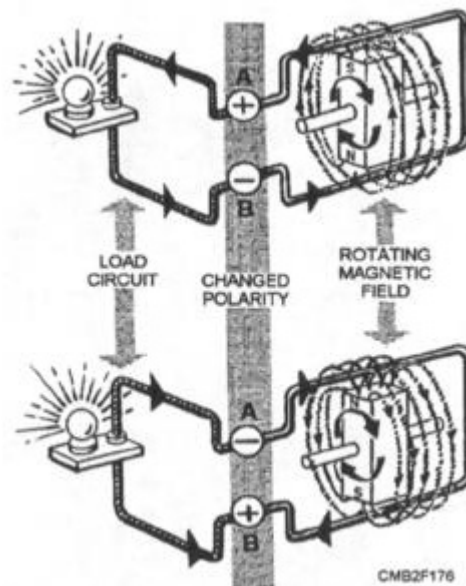

Figure 2-23.—Simple alternator illustrating reversing magnetic field and resulting current flow.
The fingers on one of the claw-shaped pole pieces produce south (S) poles and the other produces north (N) poles. As the rotor rotates inside the alternator, alternating N-S-N-S polarity and ac current is produced (fig. 2-23). An external source of electricity is required to excite the magnetic field of the alternator.